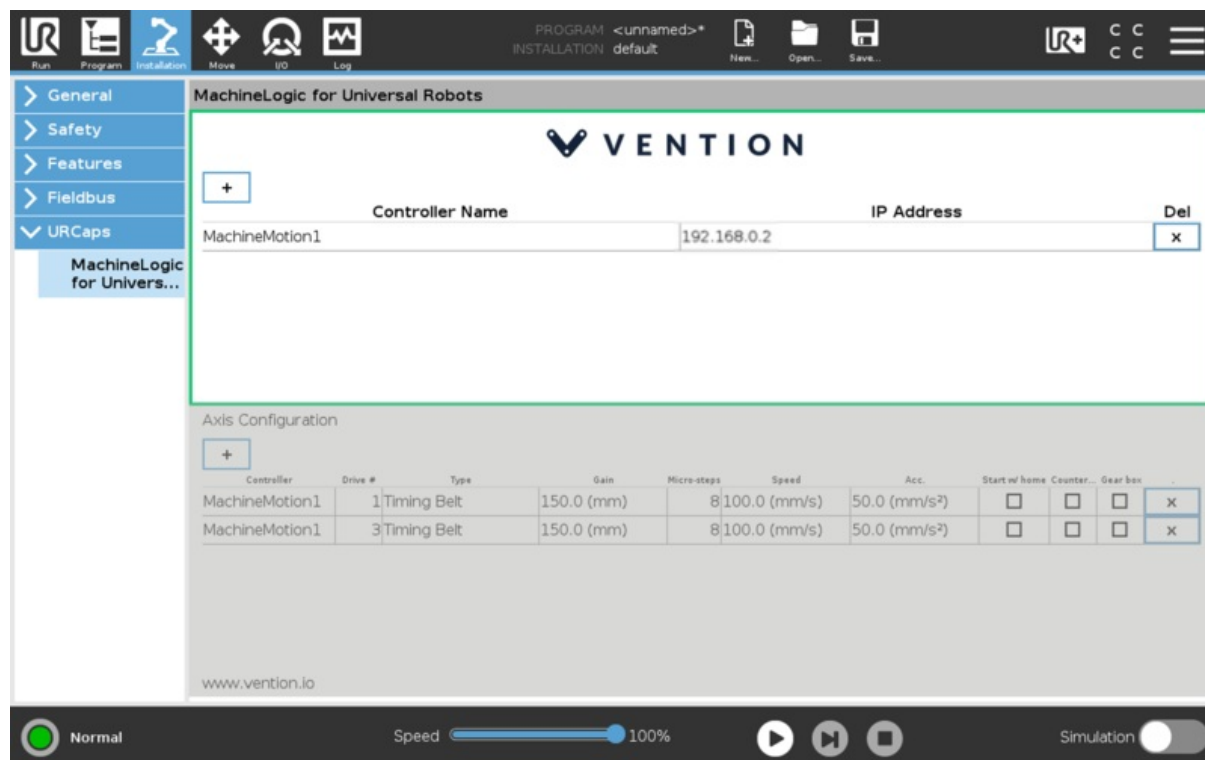

Figure 15: Upper window of the Vention URCap configuration screen
The upper window of the Vention URCap is used to define a MachineMotion controller instance (see Figure 15). Note that multi-controller systems can be created by adding more than one controller. To add a controller, select the + icon.
- **IP Address:** IP address of the MachineMotion controller. In Figure 15, IP address **192.168.0.2** is used for the MachineMotion controller